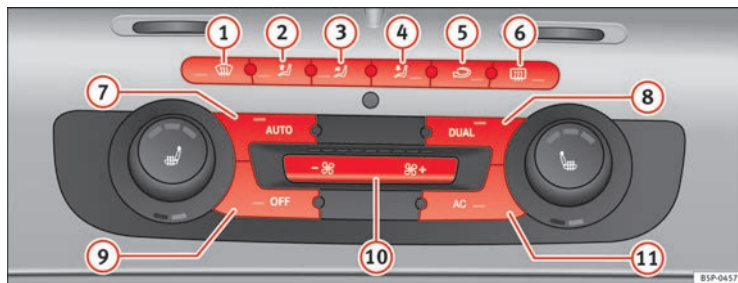

Fig. 110 On the dash panel: 2C Climatronic controls
- Turn the temperature control knobs ⇒ fig. 110 to adjust the temperature on the left hand side or the right hand side respectively.
- Press the **AUTO** ⇒ fig. 110 button. “AUTO High” is shown on the radio display (high fan speed).
- Press the **AUTO** button again ⇒ fig. 110. “AUTO Low” is shown on the radio display (low fan speed).